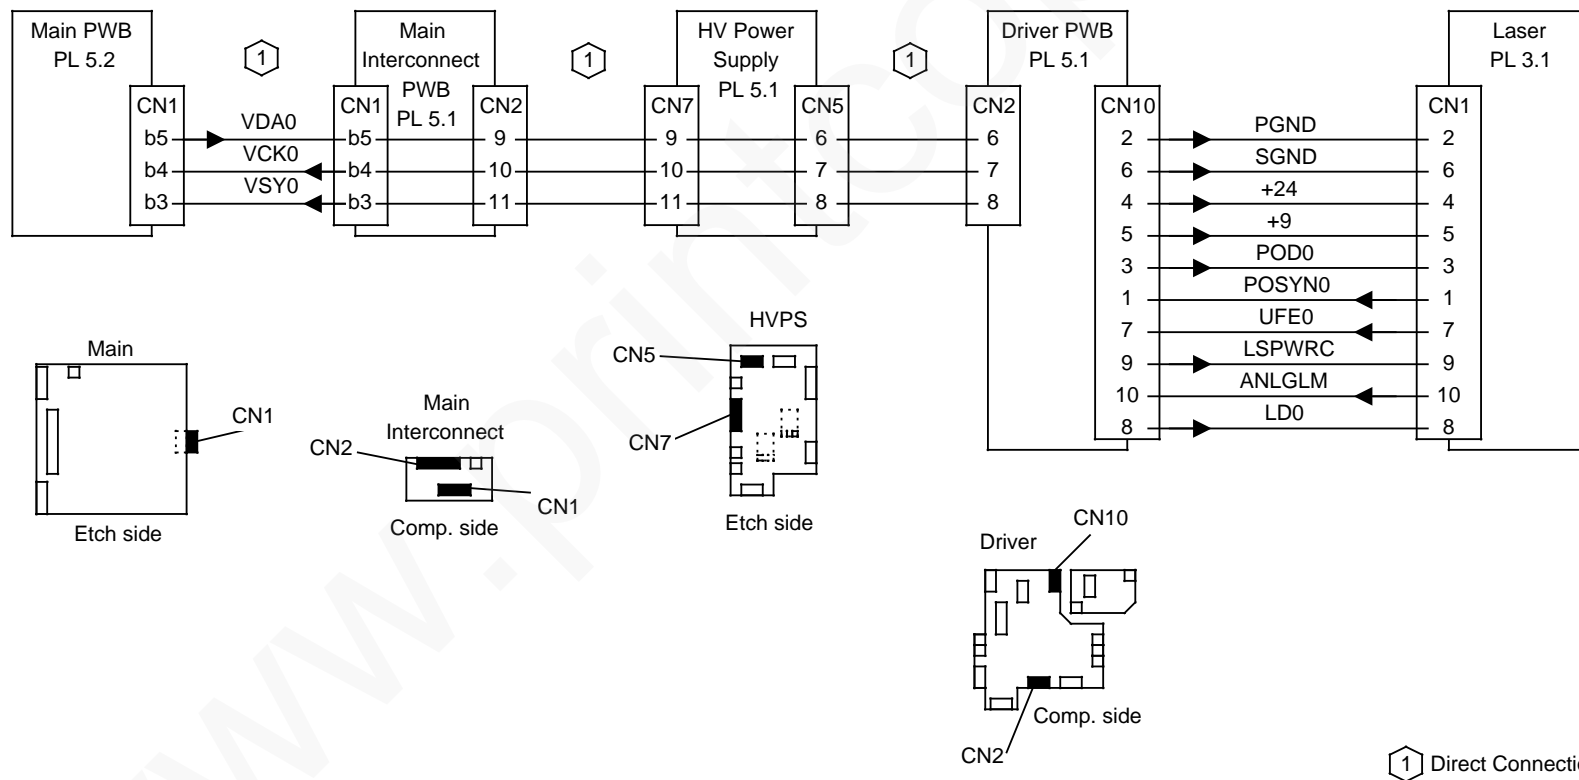

Figure 1. Printer Video
8. Check the laser monitor signal. (Figure 1)